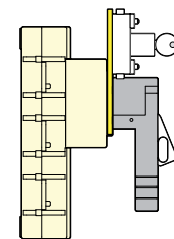

Fig. 2
- a special handle which receives the lock bolt on SIRCOVER CD 125 to CD 630 A (Fig. 2)